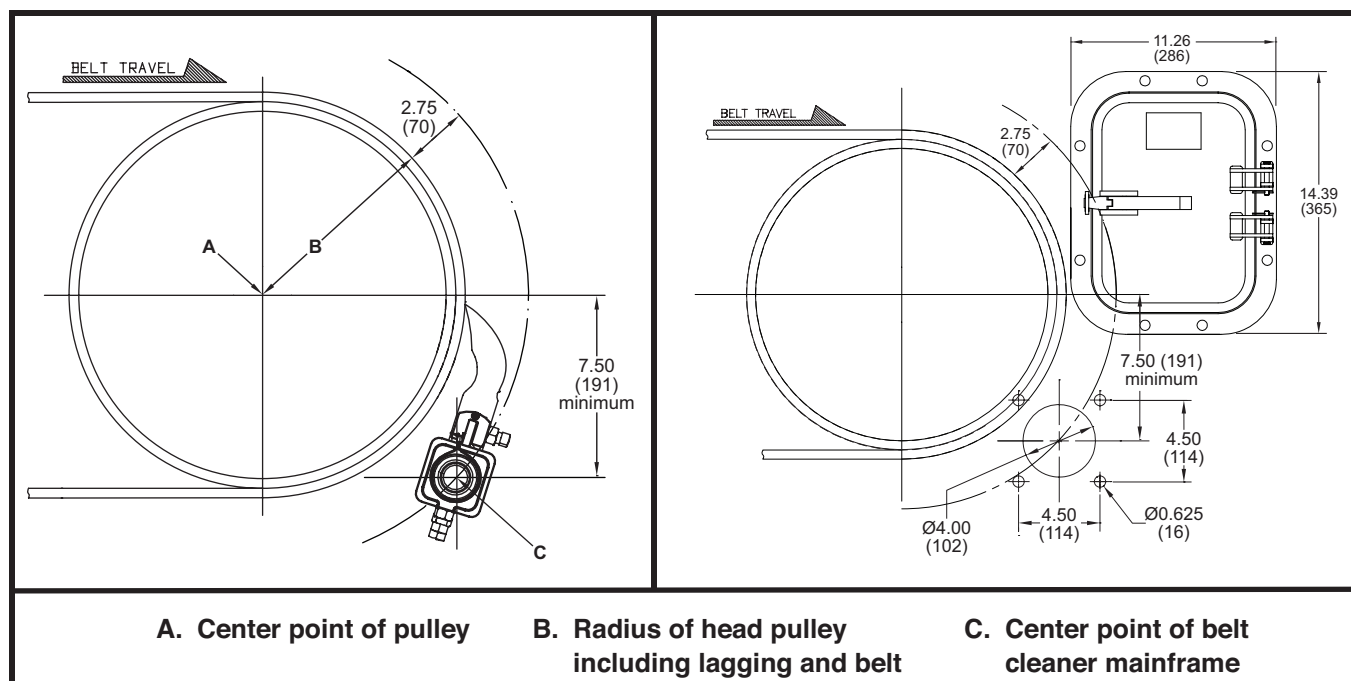

Figure 2. Belt Cleaner Mainframe Location & Chute Wall Cutouts
1. On operator side of chute, find pulley center point (A).
2. Measure radius of head pulley including lagging and belt thickness (B). To this dimension, add 2.75 in. (70 mm).
3. Starting from center point (A), measure the total distance calculated in step 2 (B + 2.75) and draw an arc on chute wall.
4. Measure down from pulley's horizontal centerline the distance shown in Figure 2 and draw a horizontal line parallel to it. Locate center point of belt cleaner mainframe (C) where this line intersects the arc on the chute wall.